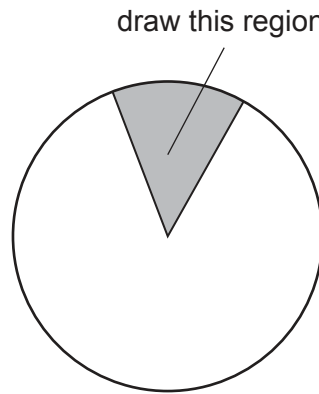

Fig. 2.1
- (a) (i)** Draw a large plan diagram of the region of the stem on **K1** indicated by the shaded area in Fig. 2.1.